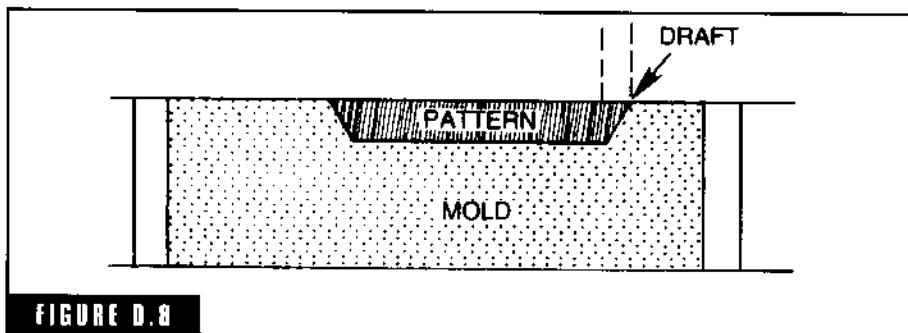

FIGURE D.8
**draft** Pattern draft is defined as the taper on vertical elements in a pattern which allows easy withdrawal of the pattern from the mold (Fig. D-8). The amount of draft required will vary with the depth of the pattern. The general rule is  $\frac{1}{16}$ -inch taper to the foot, which comes out to about 1 degree; on shallow patterns, such as a disc, a  $\frac{1}{32}$ -inch taper of 0.5 degree is sufficient.